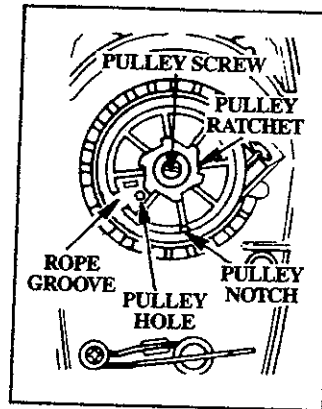

Figure 27
10. Remove screw from the starter pulley very carefully. Rotate the pulley clockwise  until no spring tension is felt and carefully lift the pulley out of the fan housing. Figure 27. Remove the old rope.
17. Carefully replace pulley in the housing. Be sure the pulley is all the way down. Replace washer and screw and tighten. Figure 27.